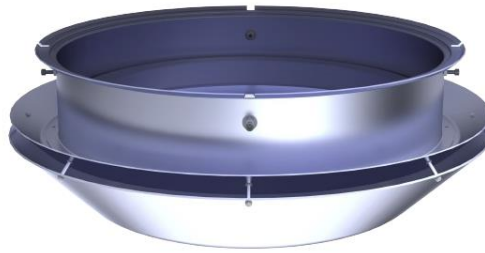

Figure 17 – Top Cover Upside Down on Clean Surface
2. **Inspect and Clean:** Place the top cover upside down on a clean surface, refer to Figure 17.